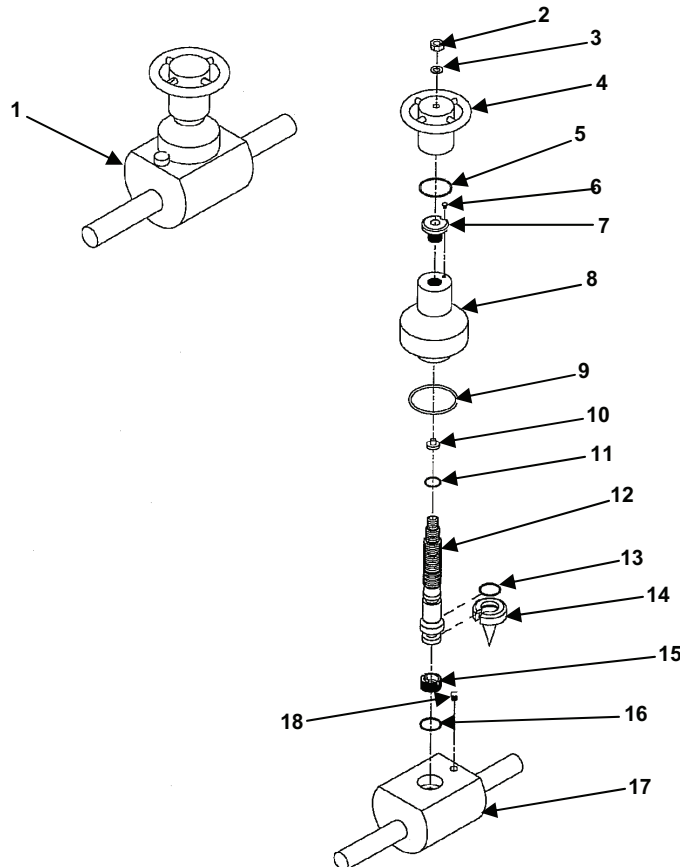

Figure 1. Reject Control Needle Valve.
1. Remove nut (Figure 1, item 2) and washer (Figure 1, item 3) from handle (Figure 1, item 4).
2. Remove capscrew (Figure 1, item 18) from body (Figure 1, item 17) on 0.5-inch needle valve (Figure 1, item 1).
3. Use strap wrench to remove bonnet (Figure 1, item 8) from body (Figure 1, item 17).
4. Remove O-ring (Figure 1, item 9) from bonnet (Figure 1, item 8).
5. Remove O-ring (Figure 1, item 5) from base of handle (Figure 1, item 4). Discard o-ring.
6. Remove capscrew (Figure 1, item 6) from stem nut (Figure 1, item 7).
7. Remove stem nut (Figure 1, item 7) from bonnet (Figure 1, item 8).
8. Remove needle (Figure 1, item 14) from stem (Figure 1, item 12) and body (Figure 1, item 17).
9. Remove stem (Figure 1, item 12) from bonnet (Figure 1, item 8).
10. Remove backup ring (Figure 1, item 10) and O-ring (Figure 1, item 11) from stem (Figure 1, item 12).
11. Remove seat (Figure 1, item 15) from body (Figure 1, item 17) if necessary with a seat removal tool.
12. Remove O-ring (Figure 1, item 16) from seat (Figure 1, item 15) if necessary.